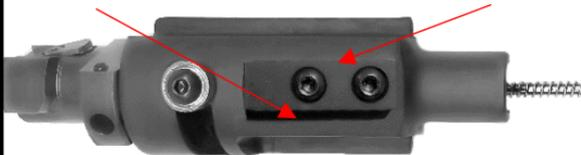

FIGURE 13
2. Insert the firing pin and firing pin spring at the same time, fully into the bolt. Ensure the firing pin's limit pin is seated in the bolt recesses. **SEE FIGURE 13, PAGE 36**